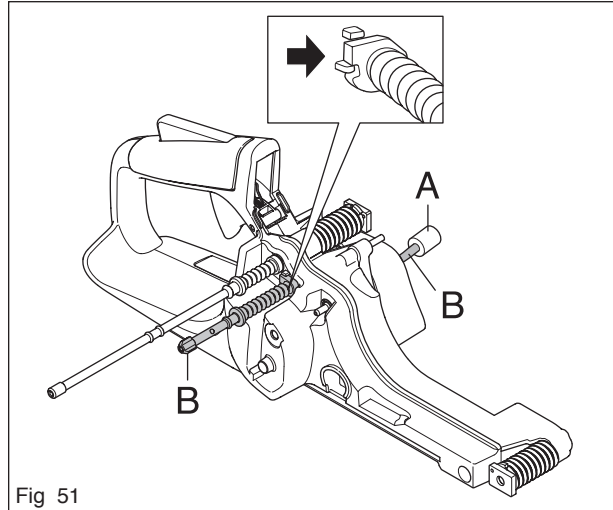

Fig 51
2. Snap the purge into the filter holder (see figure 51).